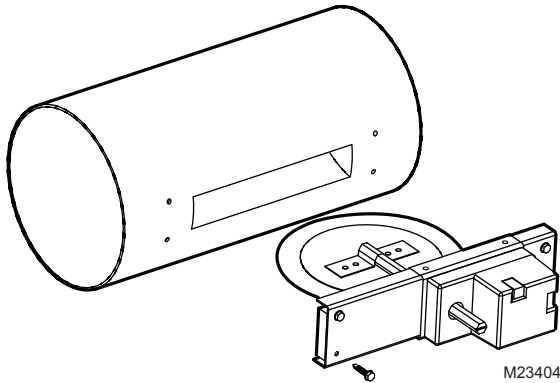

Fig. 3. Inserting RRD damper into duct.
- Slide the damper into the duct and secure it with the four supplied self-drilling mounting screws. Be careful to avoid over-tightening the screws as the duct may be pulled out of round. See Fig. 3.